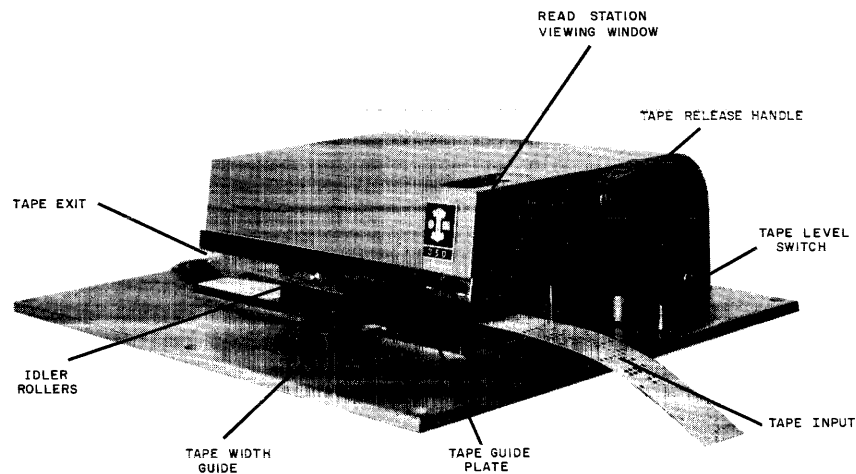

Figure 4-5. Paper Tape Reader
The reader is a CONTROL DATA 350 paper tape reader (figure 4-5). It can read either a 5-, a 7-, or an 8-level tape. For a bi-octal tape with the 7th level control holes, assembly mode is selected; for a flex or other code, character mode is selected.
- 5) Insert tape as shown in figure 4-5. Make sure that the tape is properly aligned.